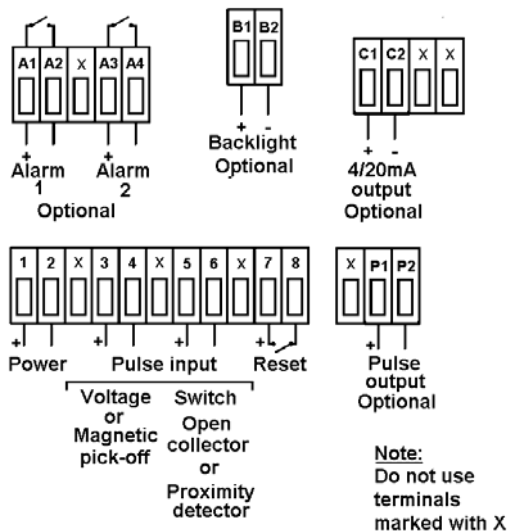

Fig 4 Installation and terminal connections
- Fix panel mounting clips to opposite sides of the instrument and tighten until the instrument is secure as shown in Fig 4. Four clips are required to achieve an IP65 seal between the instrument enclosure and the panel.
- Connect the panel wiring to the rear terminal block(s) as shown in Fig 4. To simplify installation, the terminals are removable so that panel wiring can be completed before the instrument is installed.